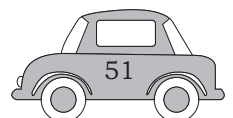

Fig. 3.12: Crank Case
15. Crank Case: The crank case is an integrated part of the cylinder block. The casing is provided to hold the crankshaft. The crankshaft is allowed to rotate freely and transmit the power to the flywheel (Fig. 3.12).